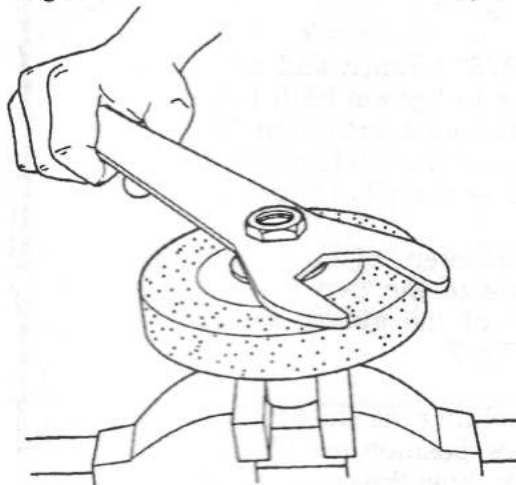

Fig. 14
14. Thread the arbor nut (17) on the arbor shaft (13).
15. Use 15/16" and 1" wrenches to securely tighten the arbor nut. Fig. 14 shows another method of tightening the nut, with a bench vise and Shopsmith arbor wrench (Part No. 515979). We recommend this latter method.